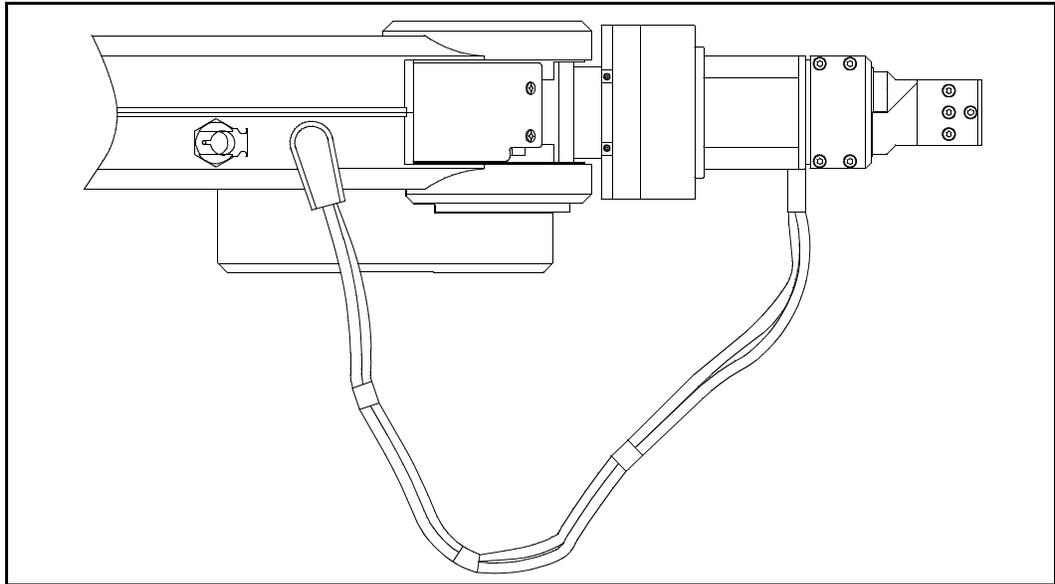

Figure 4-5: Connecting DC Servo Gripper - top view
4. Connect the gripper cable to the electrical connector on the robot arm. Make sure the connector is oriented as shown in Figure 4-5.
-  *At the end of each work session (before turning off the controller), or before homing the robot, make sure the gripper's position is as shown in Figures 4-5 and 4-6.*